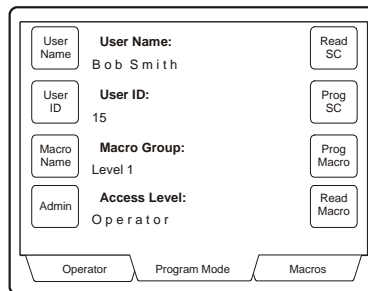

Figure 4.5: Read Smart Card
3. The keyboard will display the message "Please Replace Smart Card". Insert the smart card to be read and the display will change showing the information on the new smart card—figure 4.5.